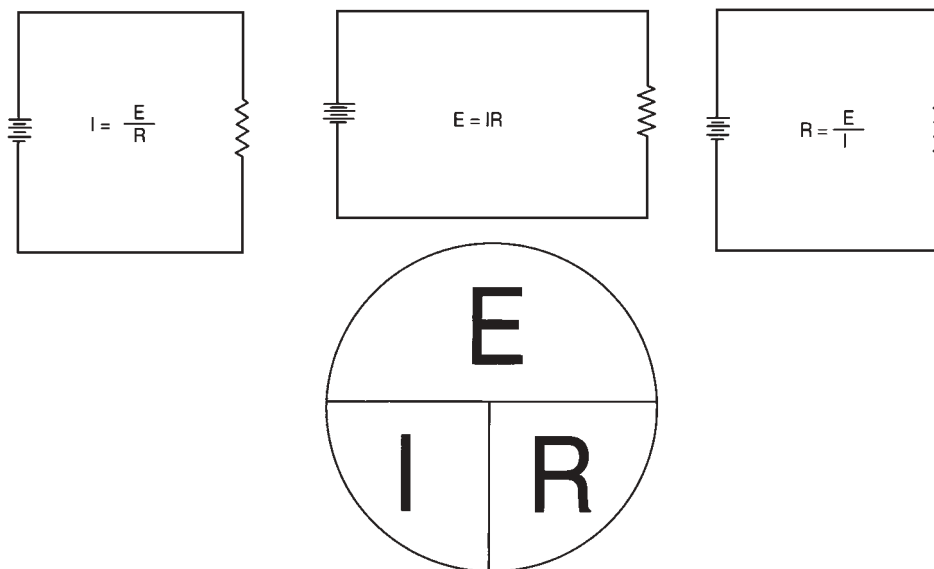

Figure 10.23 Ohm's law in diagram form.
The Ohm's law equation and its various forms can be readily obtained with the aid of the circle in Fig. 10.23. The circle is divided into three parts with each part containing E , I , and R respectively. The letter E is above the horizontal line, while I and R are below the horizontal line. To determine the unknown quantity, first cover that quantity with a finger. The position of the uncovered letters in the circle will indicate the mathematical operation to be performed. For example, to find current (I), cover the letter I with a finger. The uncovered letters indicate that E is to be divided by R , or $I = \frac{E}{R}$. To find the equation for E , cover E with your finger. The result indicates that I is to be multiplied by R , or $E = IR$. To find the equation for R , cover R . The result indicates that E is to be divided by I , or $R = \frac{E}{I}$.
Although some handheld computers and calculators can now extend these calculations and are great time-saving devices when used on the job or in practical applications, the technician should have a basic knowledge of how these calculations are obtained. Figure 10.23 should be used to supplement your knowledge of the algebraic method, not as a substitution for the algebraic method. Algebra is a basic tool in the solution of electrical problems.